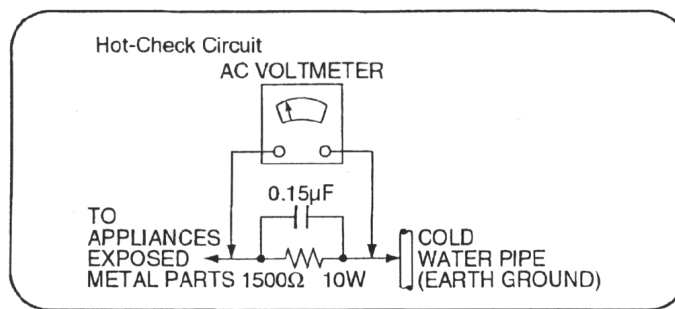

Fig. 1
1.1.2. LEAKAGE CURRENT HOT CHECK (See Figure 1.)
2. Connect a $1.5k\Omega$, 10 watts resistor, in parallel with a $0.15\mu F$ capacitors, between each exposed metallic part on the set and a good earth ground such as a water pipe, as shown in Figure 1.